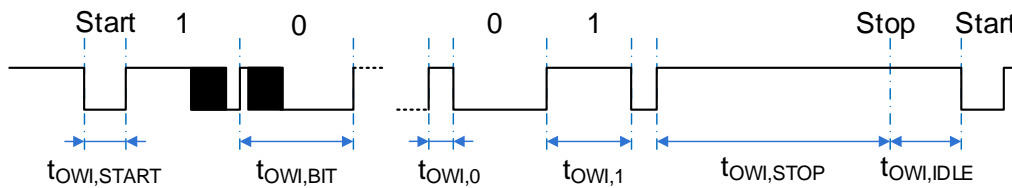
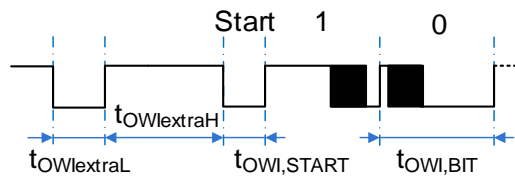

Figure 14. OWI Timing Diagram
Figure 15. OWI Extra (Activation) Pulse for Concurrent OWI and Analog Output Configuration
- **Valid Data:** Data is transmitted in bytes (8 bits) starting with the most significant bit (MSB). Transmitted bits are recognized after a start condition at every transition from low to high at the OWI line. The value of the transmitted bit depends on the duty ratio between the high phase and high/low period (bit period, $t_{OWI,BIT}$ in Figure 14). A duty ratio greater than $1/8$ and less than $3/8$ is detected as 0; a duty ratio greater than $5/8$ and less than $7/8$ is detected as 1. The bit period of consecutive bits must not increase to more than 1.5 times the previous bit period or decrease to less than half of the previous bit period because a stop condition is detected in this case.
OWI protocol timing and parameters are specified in Figure 14, Figure 15, and Table 23.
- **Continuous OWI and Analog Output:** The configuration *owi_off* = 0, *cont_ANAoutn* = 0, and *owi_su_case* = 1 results in AOUT providing analog output levels as soon as they are available after power-up (in Cyclic Mode). Concurrently, the OWI listens to the AOUT ¹ pin in order to check for valid OWI commands. The OWI still needs to be enabled by means of the *Startup OWI* command. The physical protocol in this configuration requires an extra pulse (see Figure 15) prior the *Startup OWI* command. After the release of the extra OWI initialization pulse, the analog output is switched off ² and AOUT becomes the OWI I/O pin until the OWI startup window (according to *owi_su_length*) has elapsed. The OWI-master implements *Dynamic Driving* to avoid dynamic currents (due to DAC-output level changes) causing unwanted pull-up signal generation (via *ROWI,PULL*). When *Dynamic Driving Approach* is not applied in this configuration, set the constantly connected OWI-master pull-up resistances (*ROWI,PULL*) to ≥5.5kΩ to prevent erroneous OWI-start detections that can be triggered by changing DAC-output levels. Limit the interface speed to slower values with the proper setting, such as longer bit period.